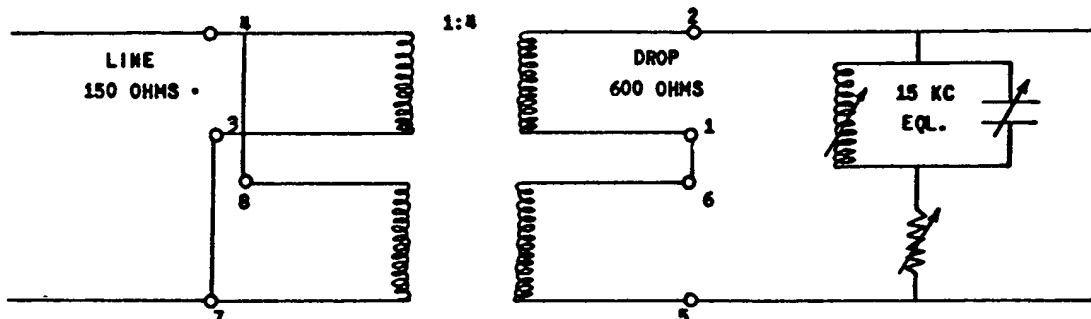

FIGURE 5
6.21 A 15KC equalizer and repeating coil arrangement is shown in Figure 5.